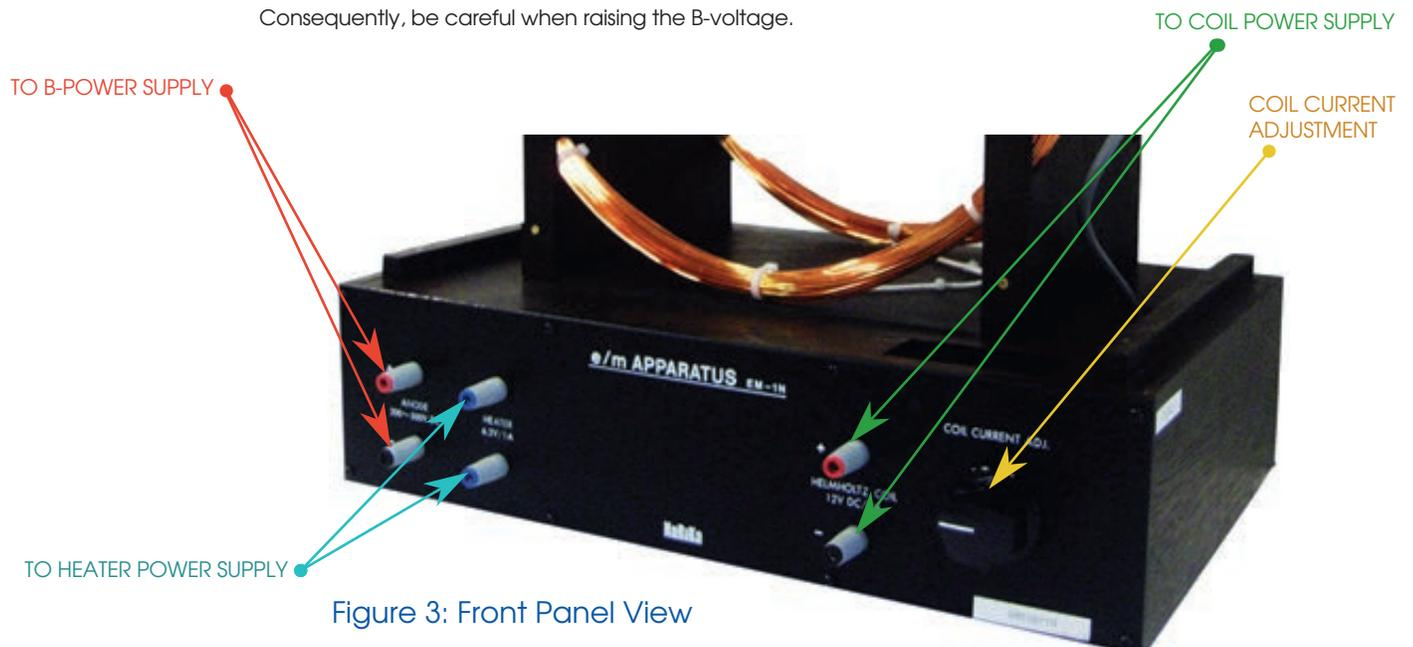

Figure 3: Front Panel View
3. Connect the power supply, voltmeter, and ammeter to the appropriate terminals of the main unit, as shown in Figure 3 and 4.